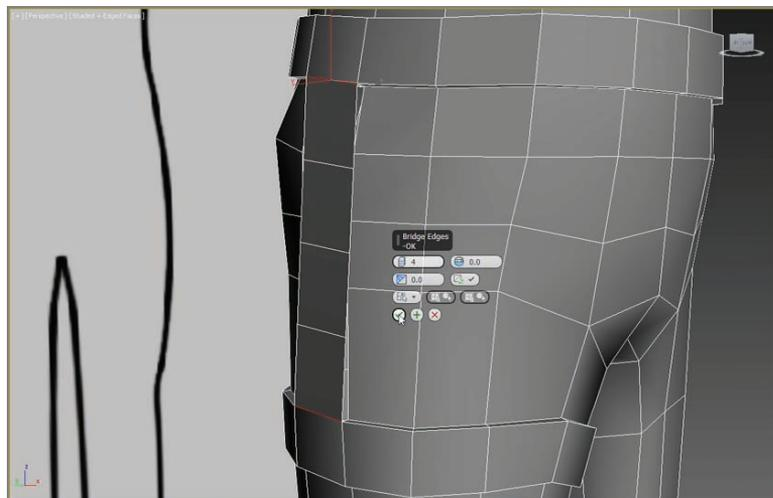

FIGURE 8.15 Select the edge at the leg strap and the edge at the strap.
9. Use Bridge to create the polygons by selecting the edge at the leg strap and the edge at the belt. The sides of the holster are still open, as shown in Figure 8.15.